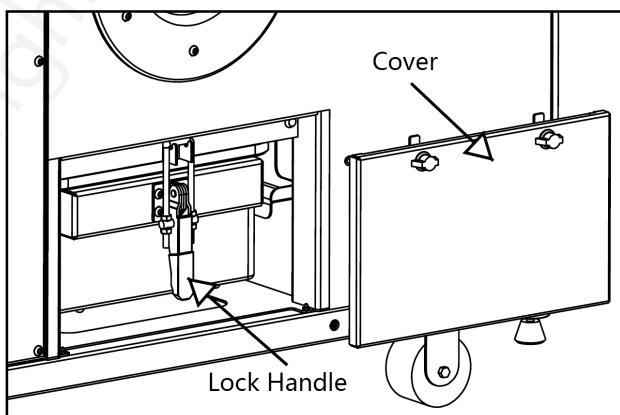

Figure 14
As shown in figure 14, move away the cover, and pull out the dust box to empty the dust.
6.2 Clean dust box (figure 14)